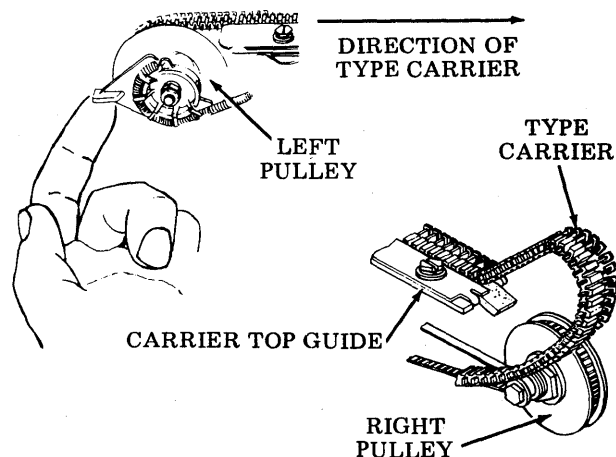

Fig. 36—Type Carrier Installation
(e) Position carrier over right pulley (Fig. 36).
- (c) Install type carrier starting at left pulley. Lift finger lever on left pulley and position carrier over right pulley (Fig. 36).